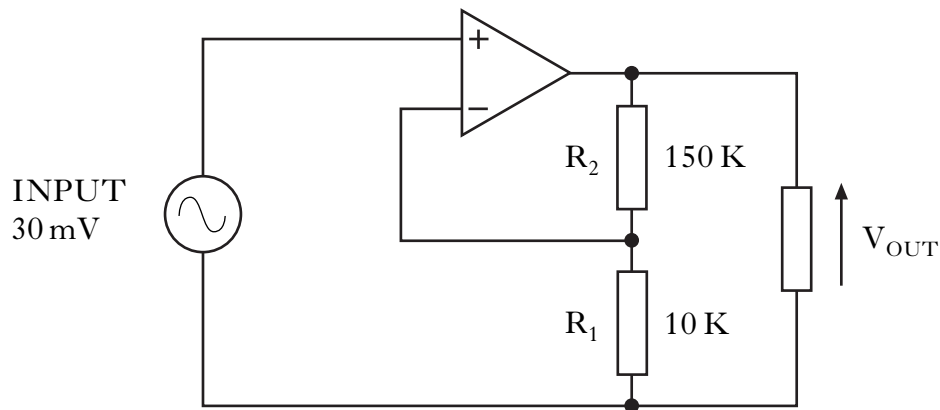

Figure Q7
The circuit shown in Figure Q7 is an operational amplifier with the $\pm 15 \text{ V}$ supplies omitted for clarity.
- (a) Name the circuit configuration shown in Figure Q7. **1**